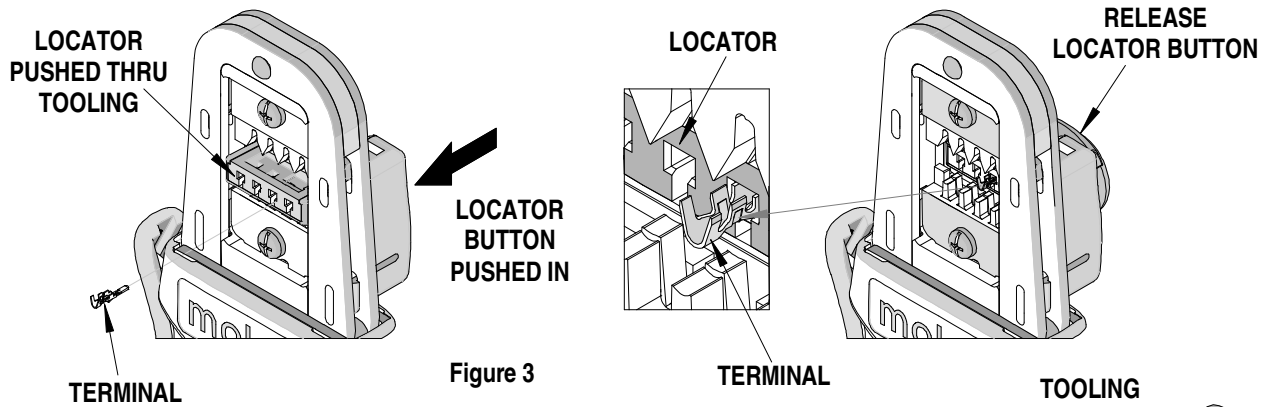

Figure 3
3. While holding in the locator button, load the terminal into the proper nest opening in the locator, based on the wire gauge or terminal type markings on the hand tooling. See Figure 3.